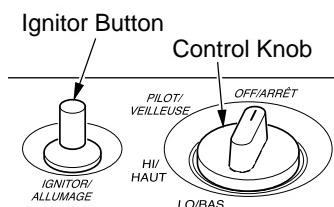

Figure 26 - Control Knob In The OFF Position (Manual Controlled Models)
3. Turn control knob clockwise ↘ to the OFF position (see Figure 26 or 27).
4. Wait five (5) minutes to clear out any gas. Then smell for gas, including near the floor. If you smell gas, STOP! Follow "B" in the safety information, above. If you don't smell gas, go to the next step.
5. Press in control knob and turn counterclockwise ↗ to the PILOT position. Keep control knob pressed in for five (5) seconds (see Figure 26 or 27).